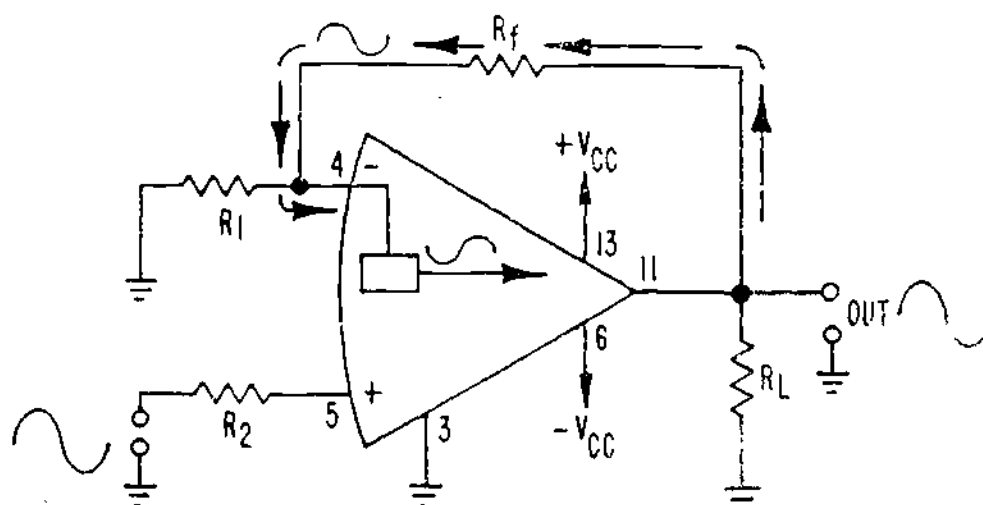

Figure 12
12. Now let's look at the situation involved in measuring non-inverting opamp signals shown in Figure 12.